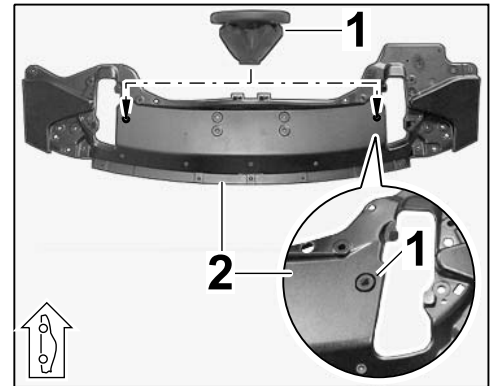

Figure 4
3.1.1 Fit two rubber mountings in the mounting bracket (right: ⇒ *Figure 4 -inset-*).